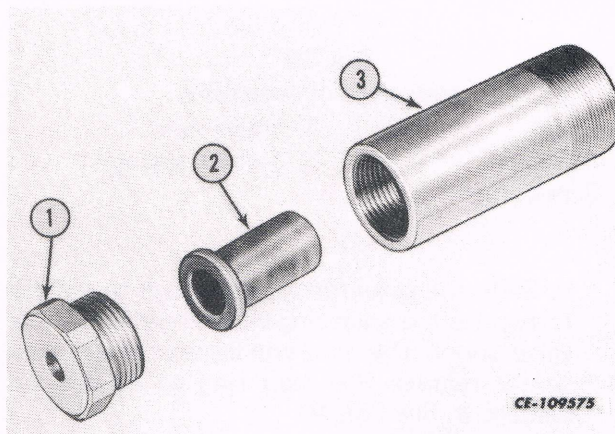

Fig. 44
2. The end cap and sleeve assembly may be disassembled if necessary. See Fig. 44.